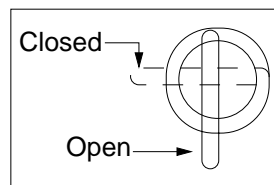

Figure 20
2. Make certain the fuel cutoff valve is in the OPEN (vertical) position. See Figure 20.